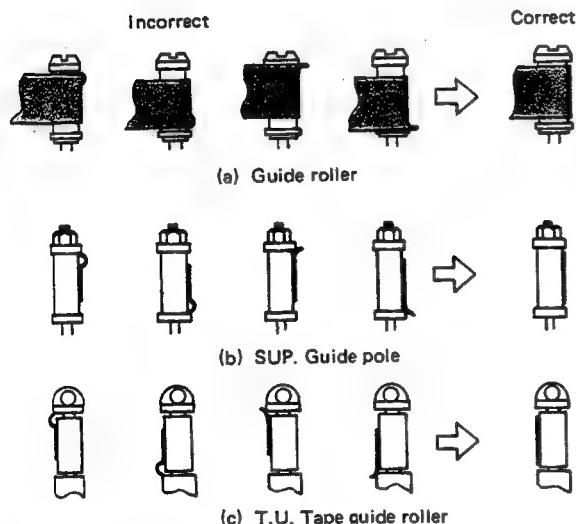

Fig. 2-37 Guide roller and Guide pole
- During Play and Search FWD modes, observe the tape at the supply guide pole, supply guide roller, take-up guide roller and tape guide. Confirm absence of curling, wrinkling, etc. as shown in Fig. 2-37.